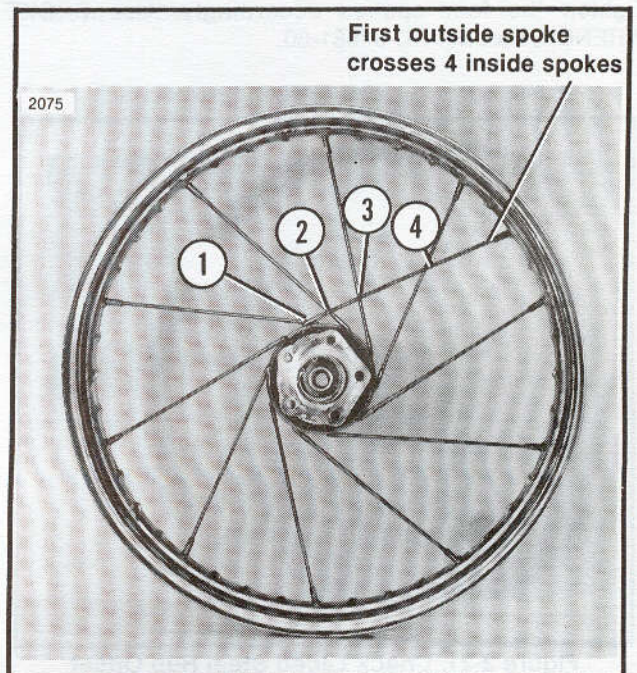

Figure 2-20. Cross-4 Pattern
6. See Figure 2-20. Swing the outer spoke in the opposite direction crossing over four inner spokes,